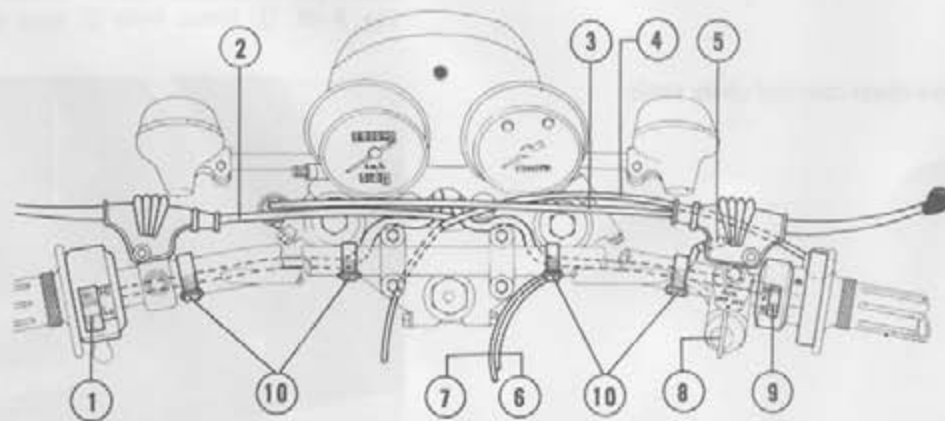

Fig. 5-56 ① Turn signal/dimmer switch ④ Throttle cable ⑦ Front stop switch lead ⑩ Wire band
4. Route the cables and wires as shown in Fig. 5-56.